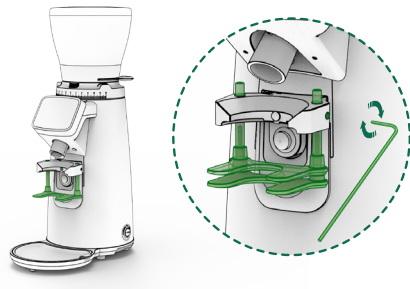

Fig. 6
3. Tighten the screw using the provided hexagonal Allen wrench No.3 (Fig. 6).